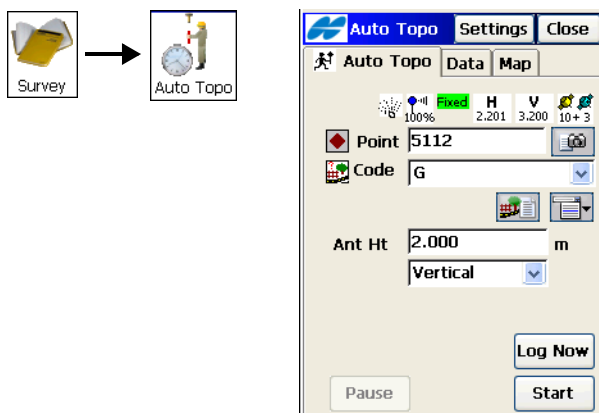

Figure 8-25. Auto Topo
1. Tap **Survey** ► **Auto Topo**. On the *Auto Topo* screen, enter the point name, select the Code if necessary and insert the Antenna height and height type (Figure 8-25).